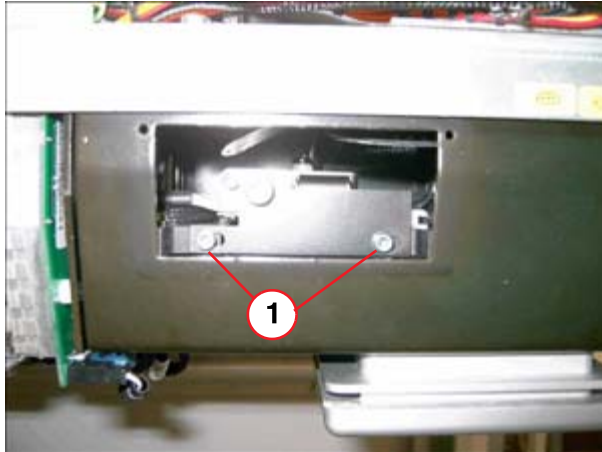

Fig. 25:
- Remove the two screws (1/Fig. 25 / p. 47)